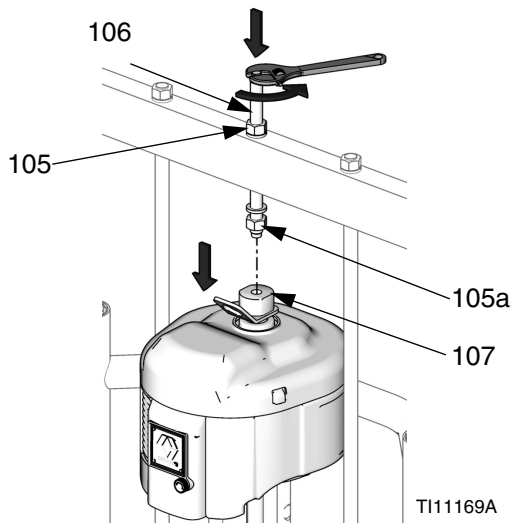

FIG. 24: NXT 2200-6500 with 55 Gallon Platen
- a. For NXT 2200-6500 with 55 gallon platen (D200 3 in. and D200s 6.5 in. supply units): Loosen nut (105a) below crossbar. Use wrench to hold lift ring adapter (107) in place and loosen threaded rod (106) above crossbar with another wrench. See FIG. 24.